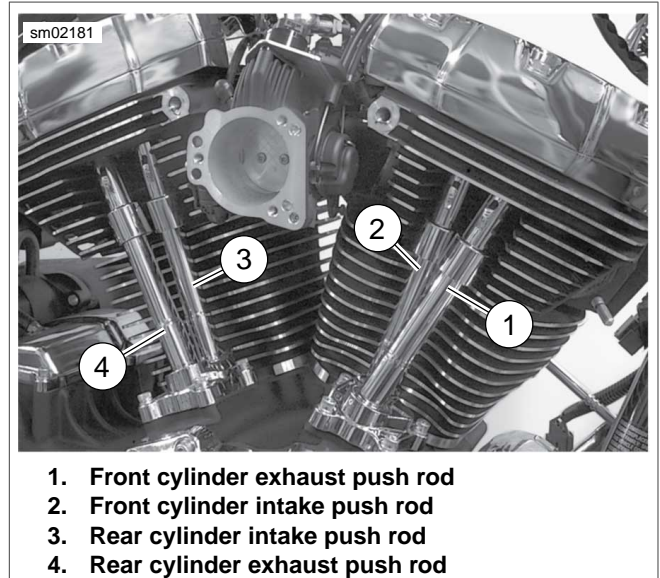

Figure 3-41. Push Rod Locations
- a. See Figure 3-41. For example, if reassembling the rear cylinder, slide the intake push rod (silver) through the front hole in the rocker housing engaging the lifter socket in the inside hole of the lifter cover.